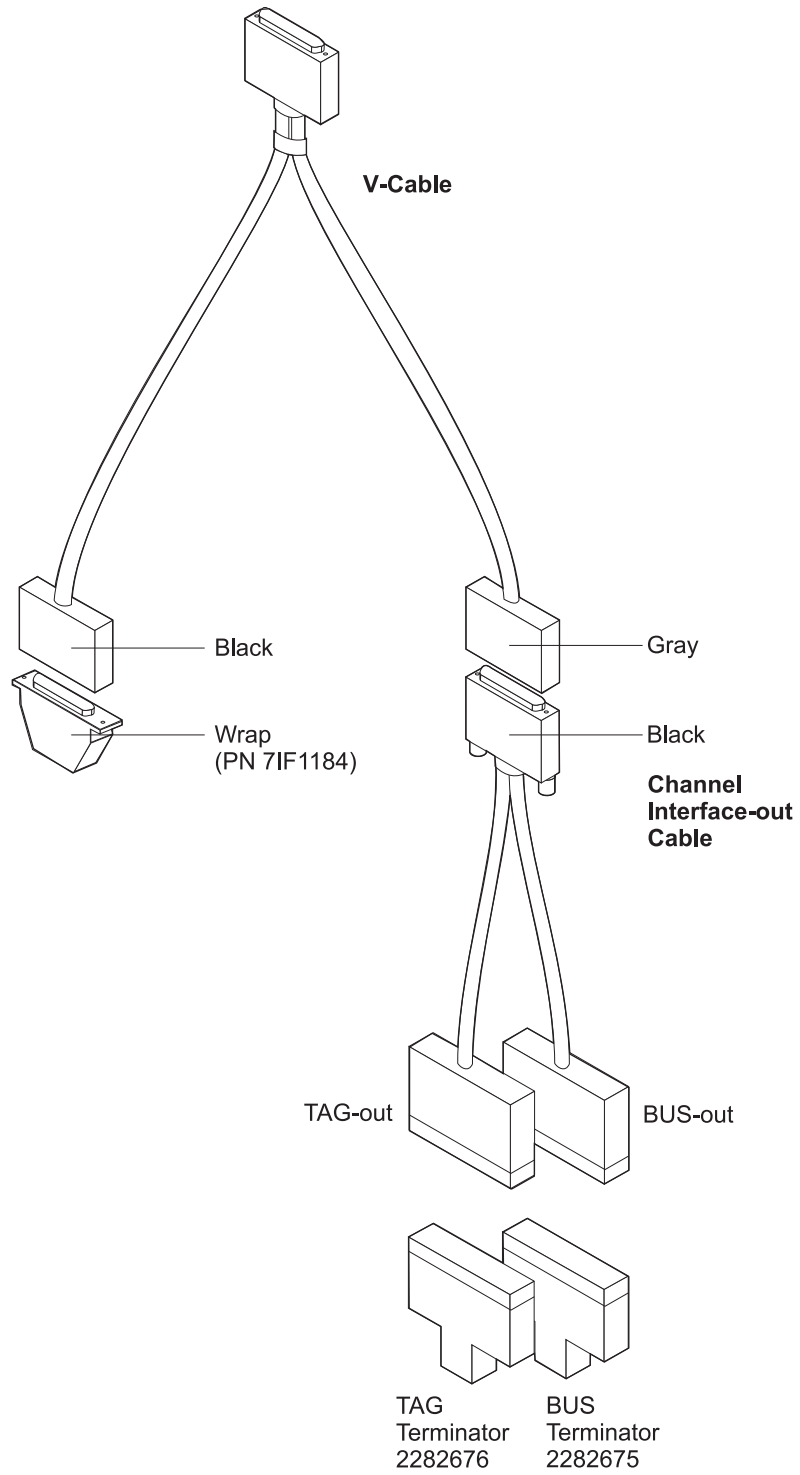

Figure 3-9. Channel Interface-out Wrap Test Connections
5. V-cable and Channel Interface-out, see Figure 3-9 on page 3-13